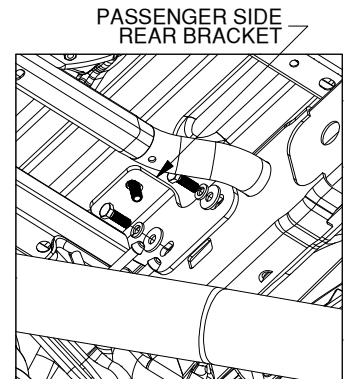

Figure C5: View looking up at passenger side frame.
7. **Install the passenger side rear bracket.** Locate the passenger side rear bracket, two M12 x 35mm hex head bolts (shorter), two 1/2" split lock washers, and two 1/2" flat washers. Position the bracket under the installation location of the rear passenger side carriage bolt. Maneuver the bracket so that the 1/2" carriage bolt passes through the slot at the top of the bracket. Using 1/2" lock washers and 1/2" flat washers, Thread the shorter (35mm) M12 hex head bolts into the frame through the holes in the bracket, see Figure C5.